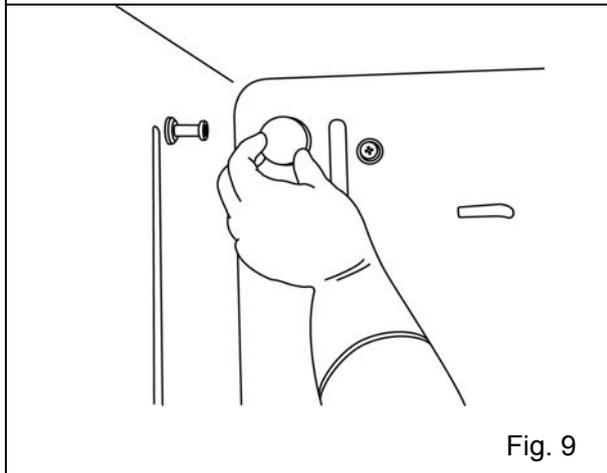
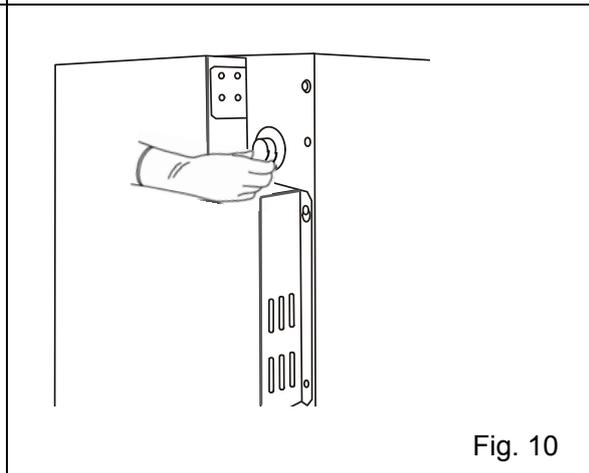

Fig. 9
Fig. 10
10. Remove the silicon caps of the access port, one each from interior (Fig. 9) and exterior (Fig. 10).